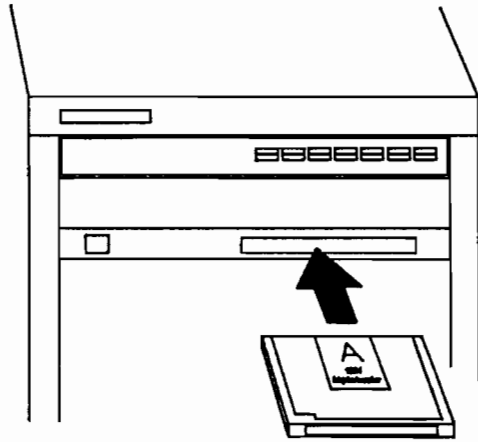
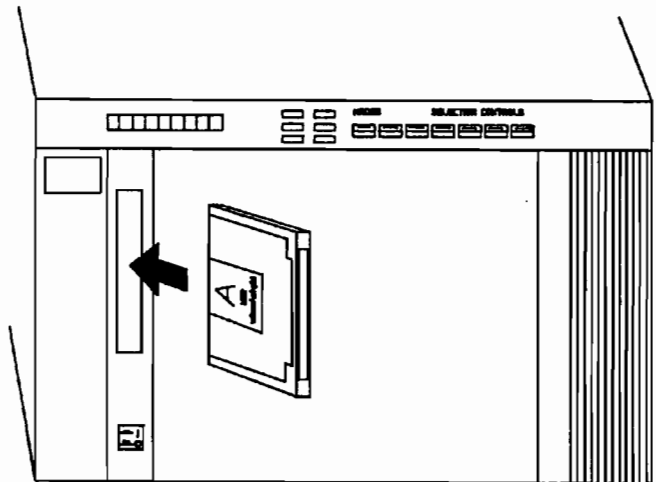

Figure 6-3. Inserting a Disk into a Deskside Unit
Figure 6-4. Inserting a Disk into a Rackmount Unit
- Side A faces in the direction shown in Figure 6-3 or Figure 6-4.